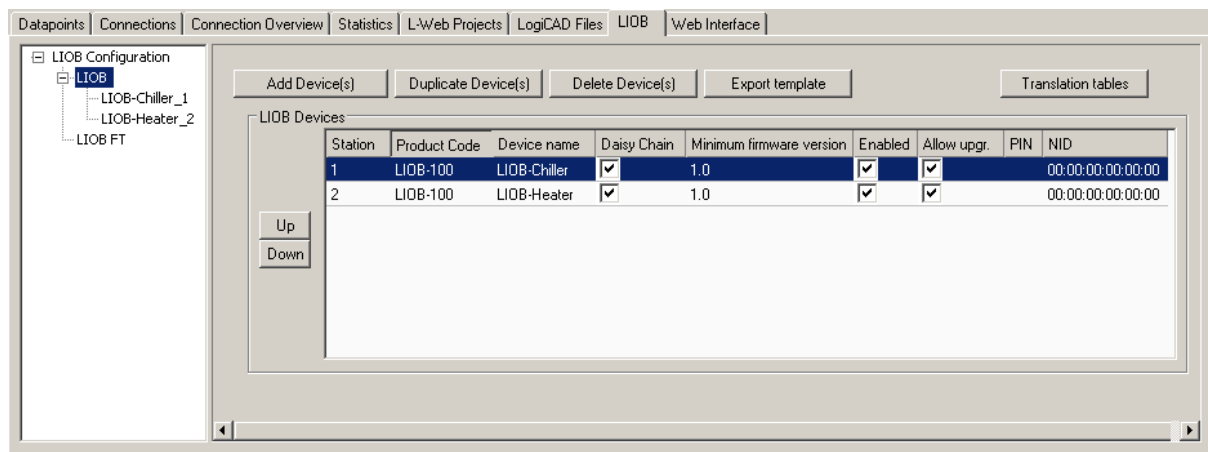

Figure 11: Add L-IOB devices to the LIOB Connect bus.
1. Start the L-INX Configurator software by selecting Windows **Start** → **Programs** → **LOYTEC LINX Configurator** → **LOYTEC LINX Configurator**. The application starts up and displays the data point manager screen as shown in Figure 11.
2. When the device is online, connect to the device by clicking on the **Connect to device** speed button as indicated by the red rectangle in Figure 11.